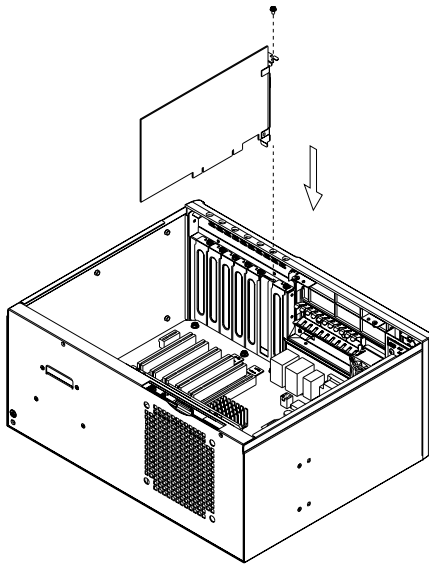

Figure 2.5: Installing an add-on card
3. Insert an add-on card into the slot. Fasten the card by a screw on the top of the I/O bracket. (see Figure 2.5)